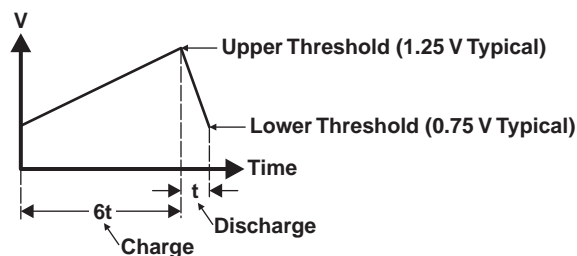

Figure 9. Oscillator Voltage Thresholds
The oscillator is composed of a current source and a current sink that charge and discharge the external timing capacitor (CT) between an upper and lower preset threshold. The typical charge current is 35 mA, and the typical discharge current is 200 mA, yielding approximately a 6:1 ratio. Thus, the ramp-up period is six times longer than that of the ramp-down period (see Figure 9). The upper threshold is 1.25 V, which is same as the internal reference voltage, and the lower threshold is 0.75 V. The oscillator runs constantly, at a pace controlled by the value of CT.